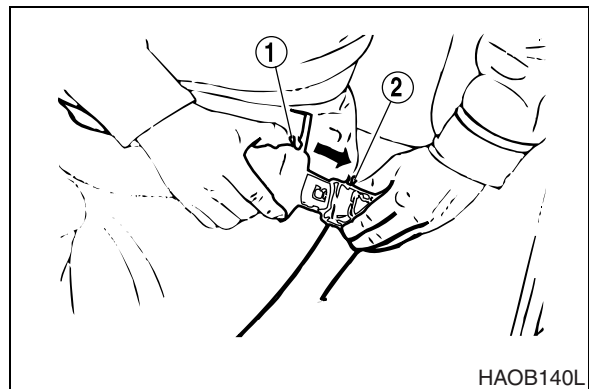

Figure 98
Insert belt end (1, Figure 98) into buckle (2). Pull belt to check that belt end is locked into buckle.